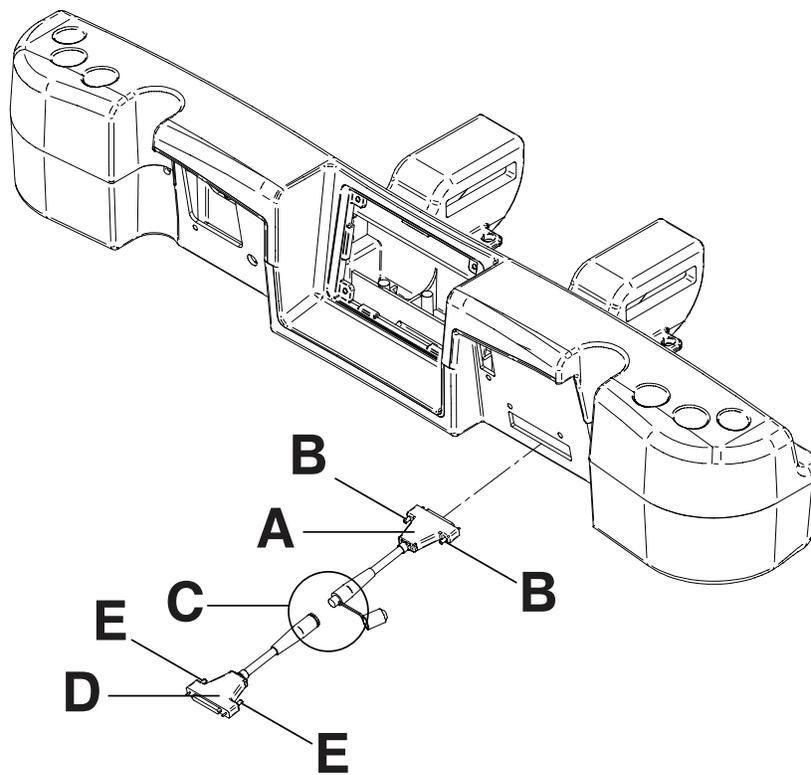

Figure 97: Wall saver connections
1. Insert the pin end of the first connector (A) into the head end of the product (Figure 97 on page 103).
2. Screw the connector fasteners (B) in to secure the connector to the product (Figure 97 on page 103).
3. Connect the back end of the second connector into the back end of the first connector (C) (Figure 97 on page 103).
4. Insert the pin end of the second connector (D) into the wall (Figure 97 on page 103).
5. Screw the connector fasteners (E) in to secure the connector to the wall (Figure 97 on page 103).